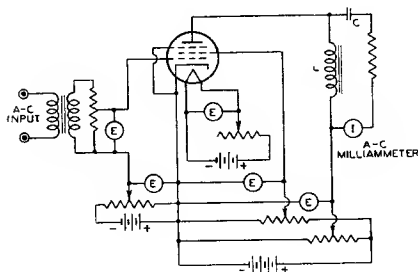

Fig. 52
Fig. 52 shows the fundamental circuit of a power output test for Class A operation of tubes. The diagram illustrates the method for a pentode. The a-c output voltage developed across the plate-load impedance (L) is indicated by the current meter. The current meter is isolated as far as the d-c plate current is concerned by the condenser (C). The power output can be calculated from the current reading and known load resistance. In this way, it is possible to determine the operating condition of the tube quite accurately.